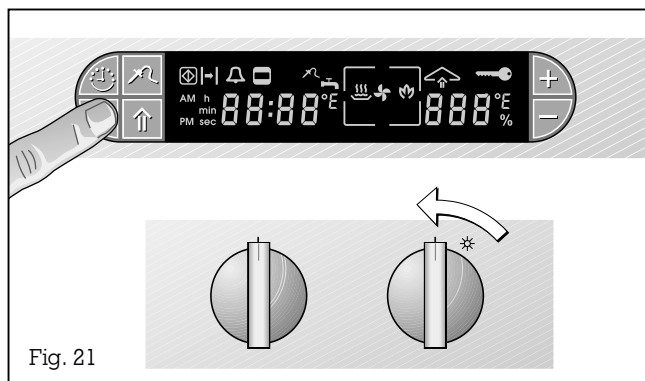

Fig. 21
- Turn the "Temperature" control knob to the 0 position (Fig. 21).